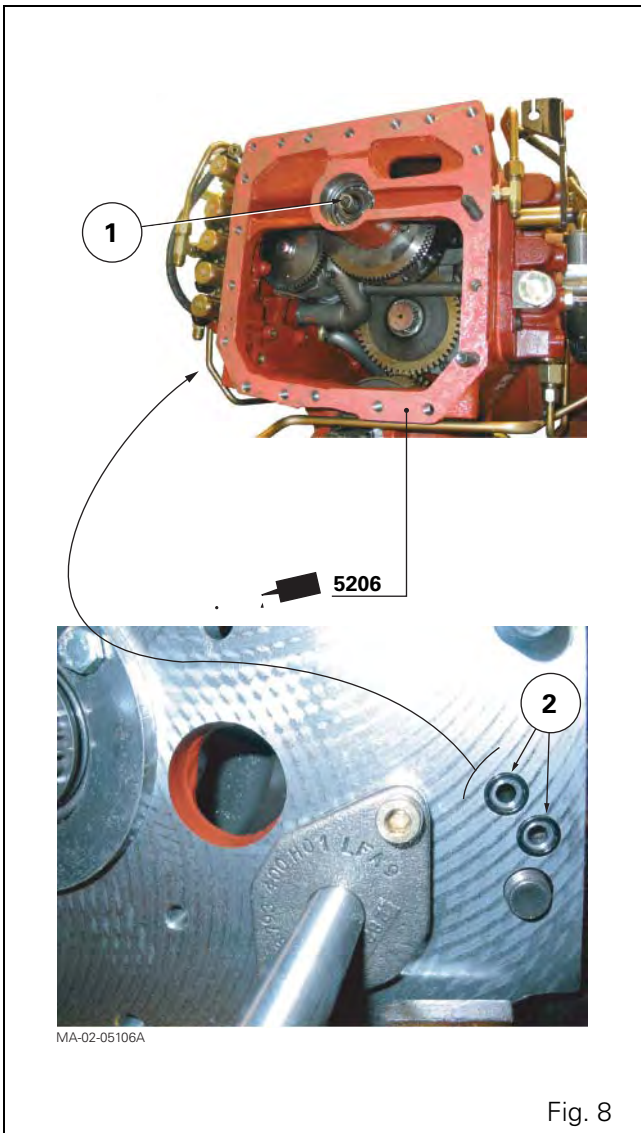

Fig. 8
29. Position the spring (1) in the PTO clutch (Fig. 8).
31. Replace the "O" rings (2) (Fig. 8).